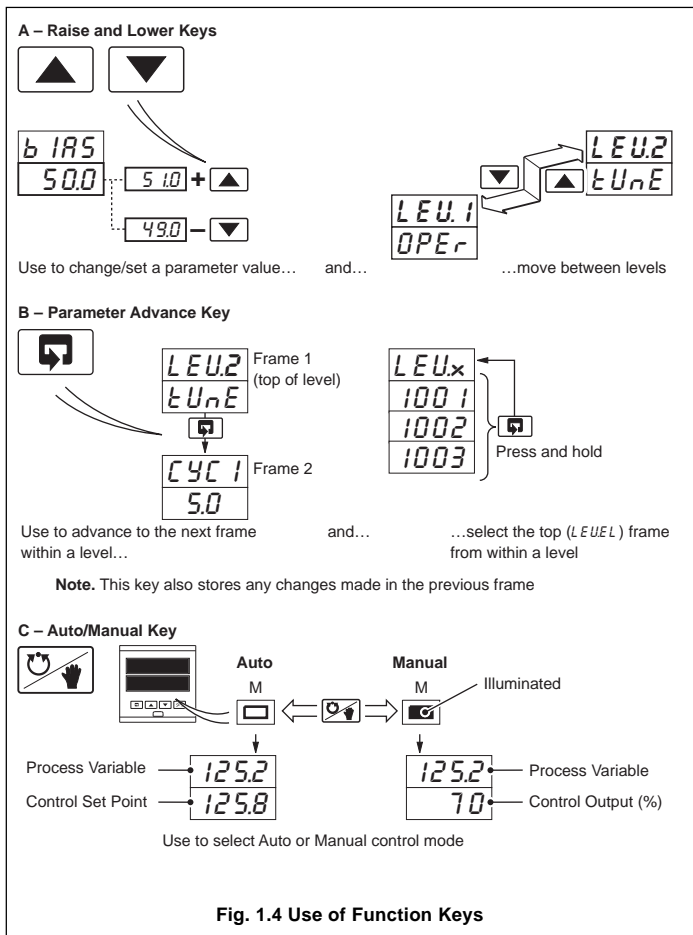

Fig. 1.4 Use of Function Keys
1.3 Use of Function Keys – Fig. 1.4